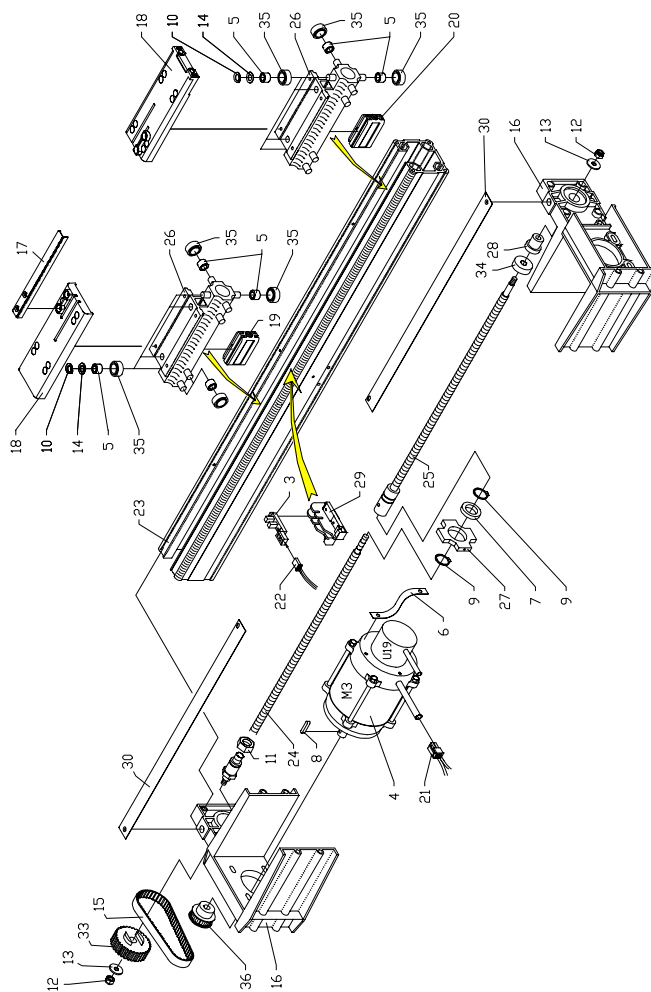

Figure 8-13
5. Remove the two retaining screws that secure the side clamp assembly to the linear actuator carriage (item 18 in Figure 8-13).
5. Remove the ground strap (item 6 in Figure 8-13).
6. Remove the four mounting bolts on the motor mount (item 16 in Figure 8-13), and remove the drive belt.
8. Remove the motor pulley (item 36 in Figure 8-13) by loosening the pulley set screws.
4. Remove the heater blower mount (item 2 in Figure 8-18) and the mirror bracket (item 18 in Figure 8-6) from the side clamp actuator case (item 23 in Figure 8-13).
7. Unplug the side clamp sensor harness (item 22 in Figure 8-13).
9. Remove the actuator shields (item 30 in Figure 8-13).
14. Clean old grease and dirt from all parts and inside of the case. Also clean off the lead screws (items 24 and 25 in Figure 8-13) and the lead screw nut assemblies (items 19 and 20 in Figure 8-13). The lead screws and nut assemblies must be clean and free of any grease or dirt.
15. Apply CPI Grease Type GRS-460-F (p/n 82909400A) to the guide rollers (item 35 in Figure 8-13) and channels in the linear actuator case. Do not apply grease to the lead screws or the lead screw nut assemblies.